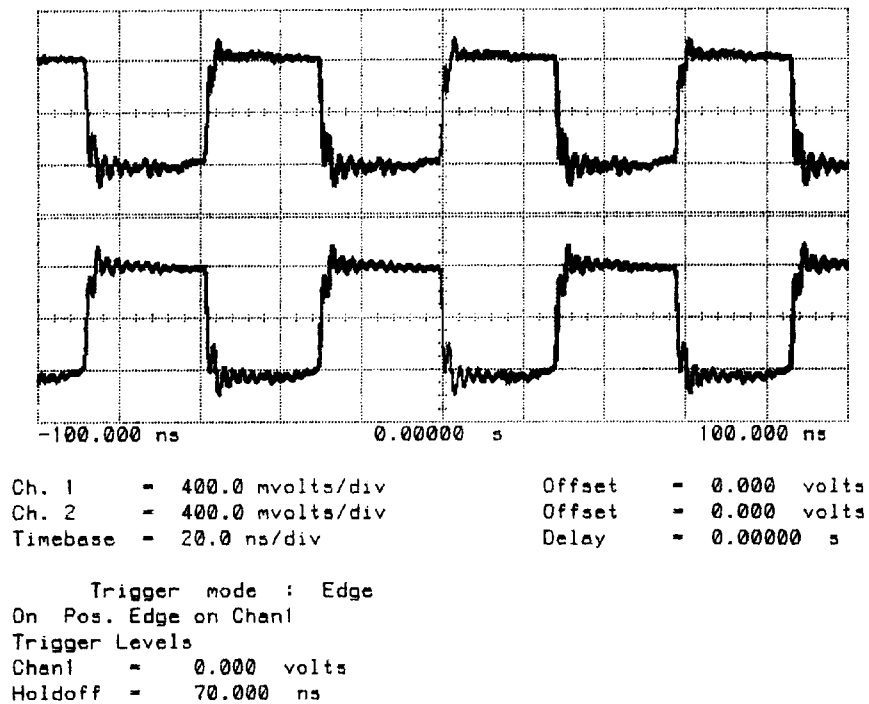

Figure 3-29 Re-timed data at 34MHz
- Verify the waveform shapes are as in Figure 3-29, "Re-timed data at 34 MHz".